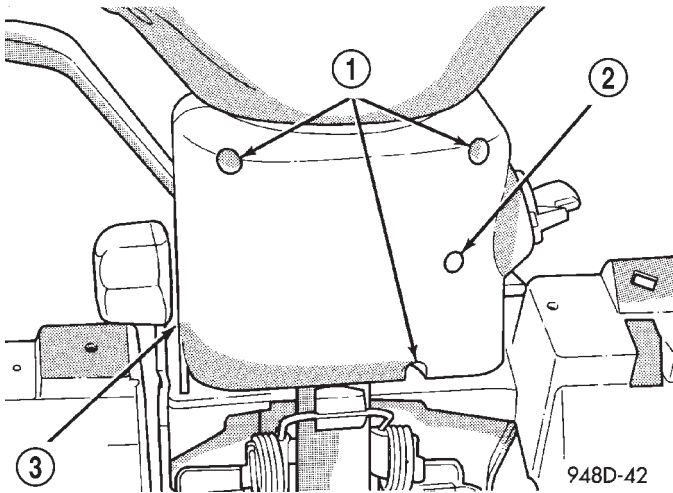

Fig. 18 Steering Column Shrouds
- (1) Disconnect negative cable from battery.
- (2) Place key cylinder in RUN position. Through the hole in the lower shroud, depress lock cylinder retaining tab and remove key cylinder (Fig. 18).
- (3) Remove upper and lower shrouds from steering column.